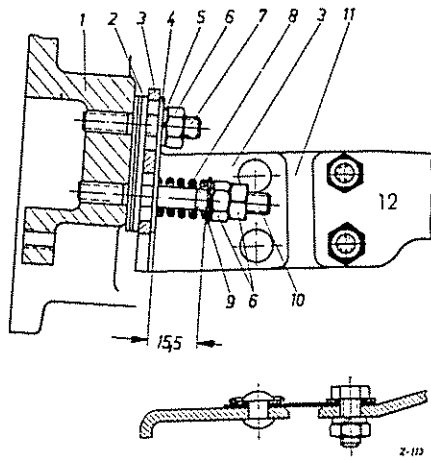

Fig. 26-1/6
1. Unscrew the hexagon nuts (1) and detach the compensating spring with pull rod (3), the cup washer (2) and the rubber buffer (Fig. 26-1/5).
2. After installing the clutch pedal shaft, attach the compensating spring, and adjust the pull rod of the compensating spring (3) by means of the two hexagon nuts in such a way that the compensating spring has a length "c" as shown in Fig. 26-1/4. Further installation procedures are identical with those described for the 2nd version.